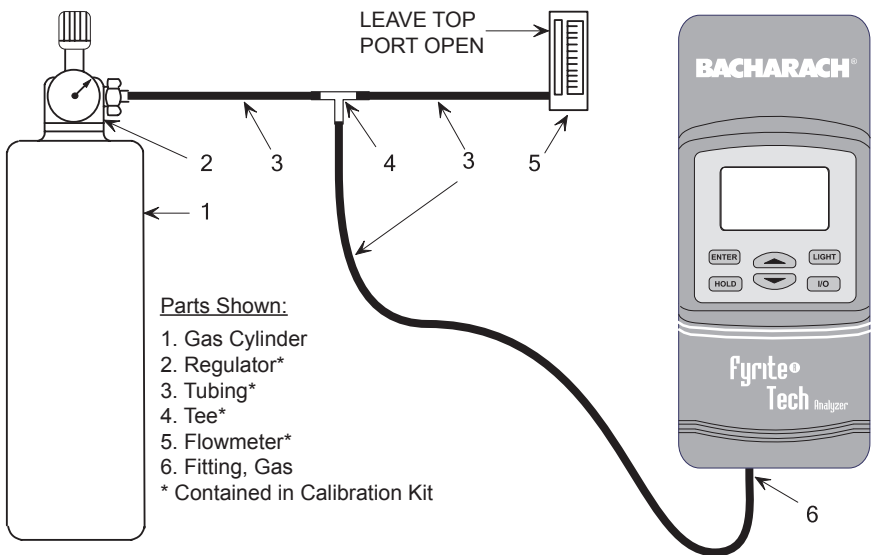

Figure 5-1. Calibration Kit Hookup
5. Connect the tubing of the Calibration Kit to the inlet of the analyzer. Then adjust the regulator for approximately 2 SCFH of excess flow (see Figure 5-1).
6. Connect the tubing of the Calibration Kit to the inlet of the analyzer. Then adjust the regulator for approximately 2 SCFH of excess flow (see Figure 5.1).